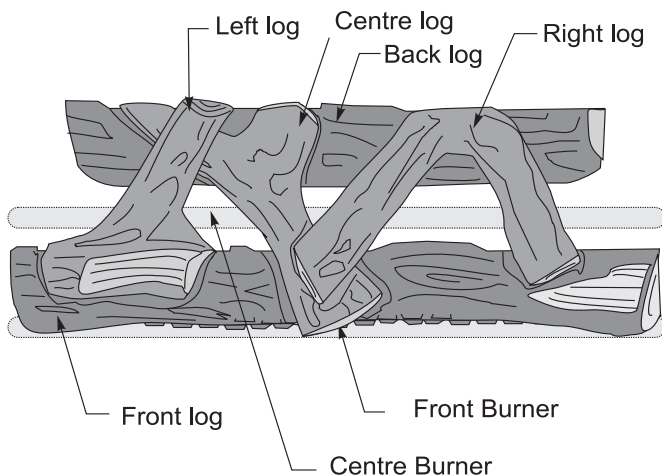

Figure 10b. Proper log placement.
4. Place the top logs in position as shown in figure 10b, place the centre log down first, then the right and left logs.